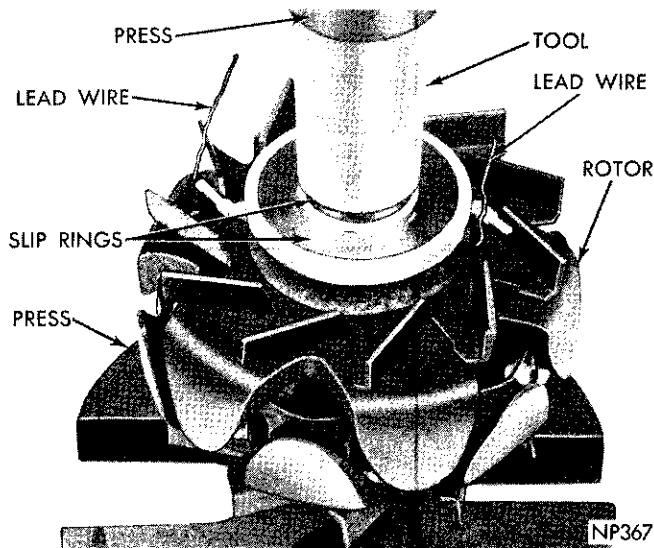

Fig. 25—Installing Slip Rings
- (i) Place installing Tool C-3900 over rotor shaft and position rotor, slip ring and tool assembly in arbor press (Fig. 25). Press slip ring on shaft. **When slip ring is bottomed on rotor fan, the field lead wire (insulated brush ring) should clear the access hole through the fan and pole piece.**